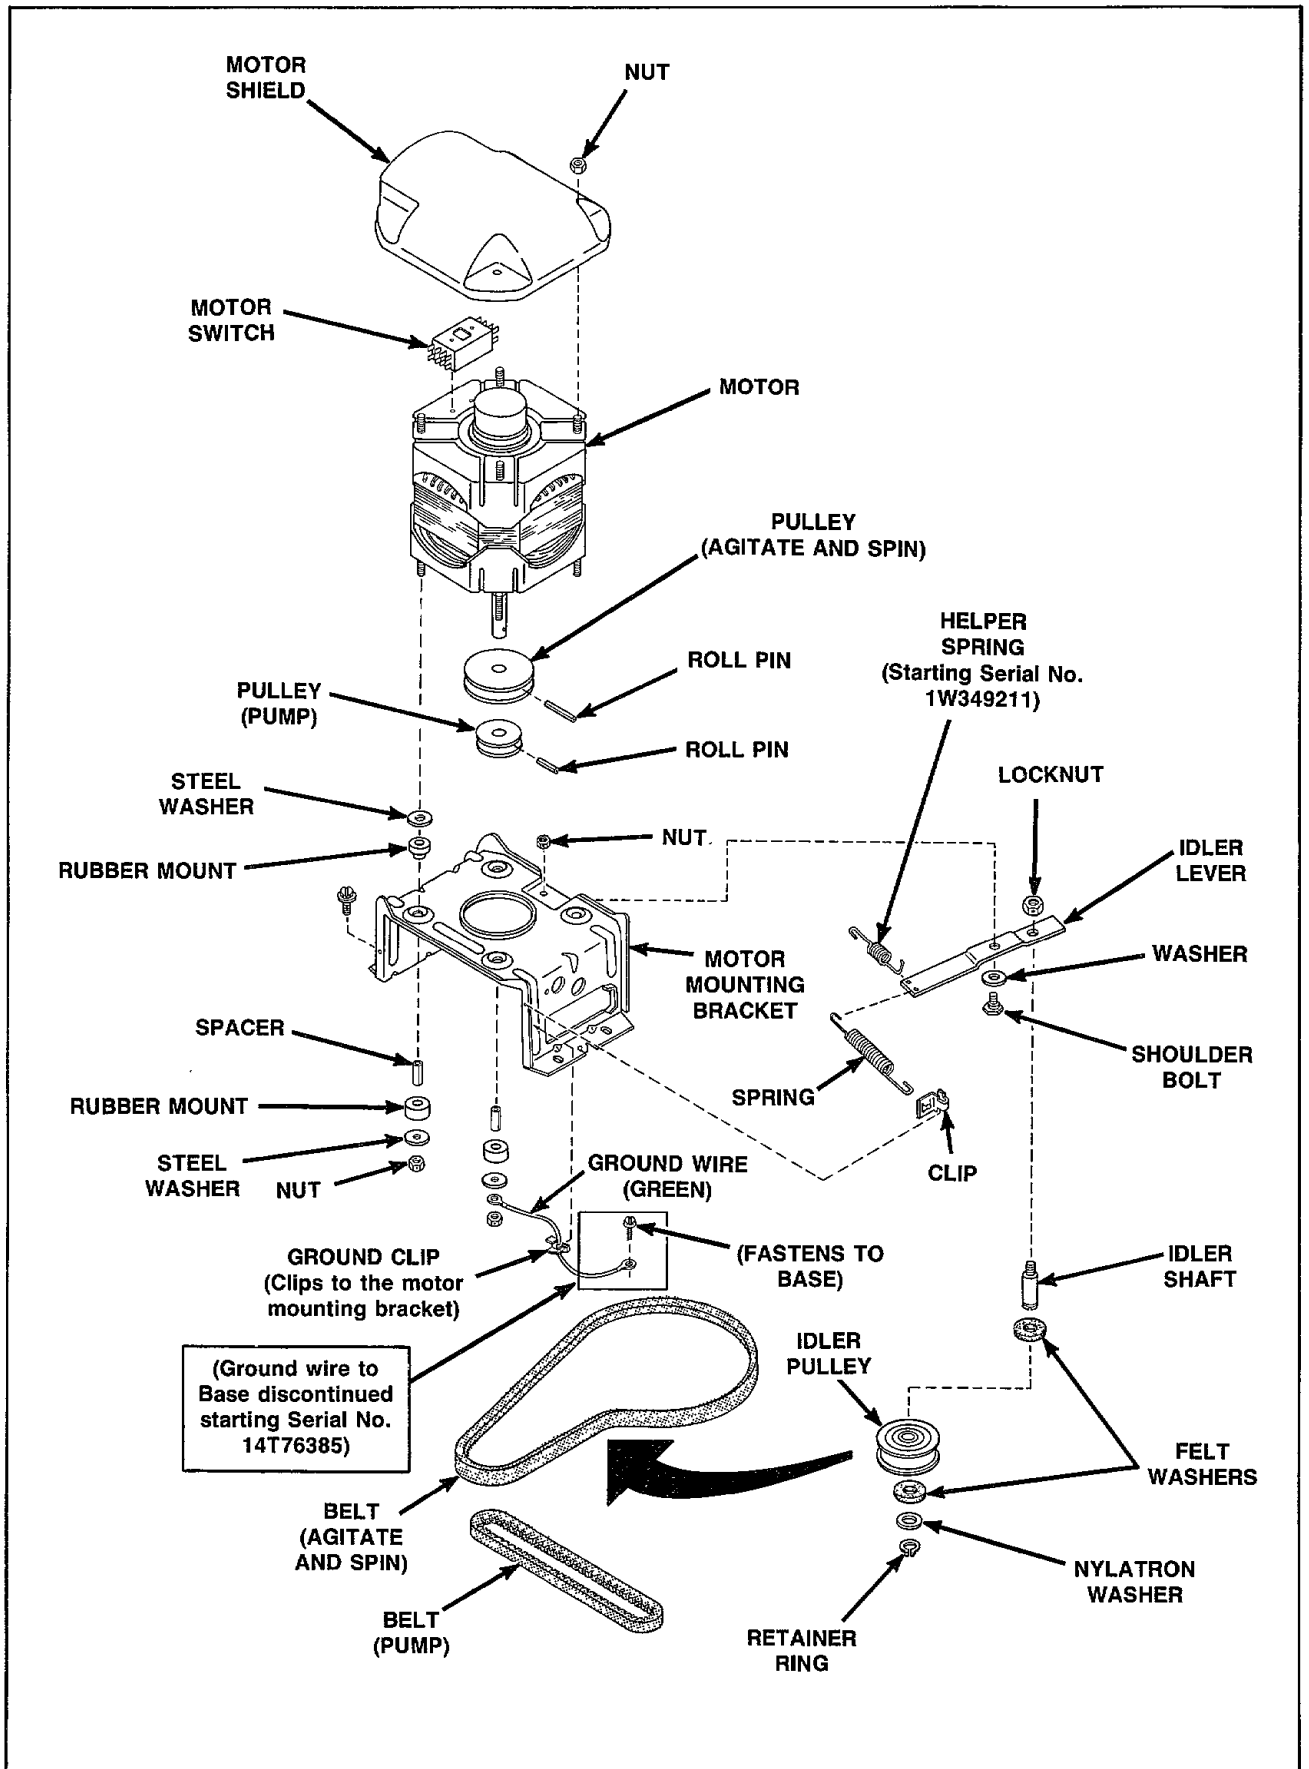

Figure 24
- f. Remove nuts, steel washers, spacers and rubber mounts holding motor to mounting bracket, *Figure 24*. Lift motor off mounting bracket and remove balance of rubber mounts and steel washers from motor mounting studs.
NOTE: Refer to *Figure 24* for motor and mounting bracket assembly sequence.
NOTE: Refer to *Figure 24* for idler lever and pulley assembly sequence.